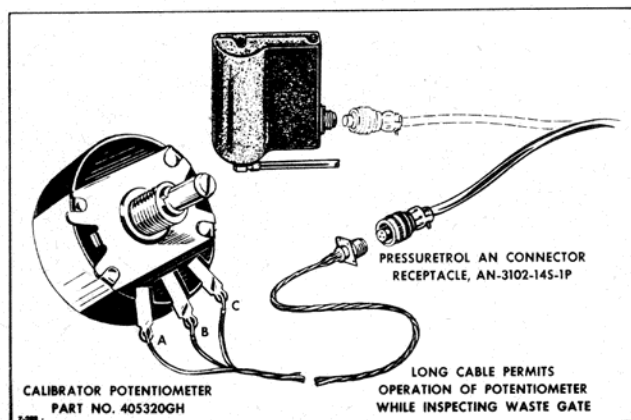

Figure 160—Service Test
a. Mount the waste gate motor to its mounting bracket with the four fillister head screws. Be sure the short screw is used in the shallow hole. If the motor is attached to a bracket already in the airplane, make sure that the bracket has not moved and that the motor shaft is parallel with the shaft of the waste gate so there will be no binding at the linkage bearings when the motor rotates. *Before connecting the linkage, run the motor against its stop in the fully closed position.* To do this, use a separate calibrator potentiometer (from a turbo boost selector) wired to an AN connector used on the pressuretrol. (See figure 160.) Disconnect the pressuretrol and attach this special test potentiometer in its place. The waste gate motor can be run in either direction by turning the wiper shaft of the test potentiometer. If a spare potentiometer is not available, solder a small battery clip to each end of a piece of insulating wire about six inches long. Attach one clip to terminal A3 and the other clip to terminal A1 in the main "J" (junction) box. The waste gate for engine No. 1 can then be opened and closed as desired by turning the dial of the manifold pressure selector. Short across the terminals as listed below to operate the waste gate on the other engines.